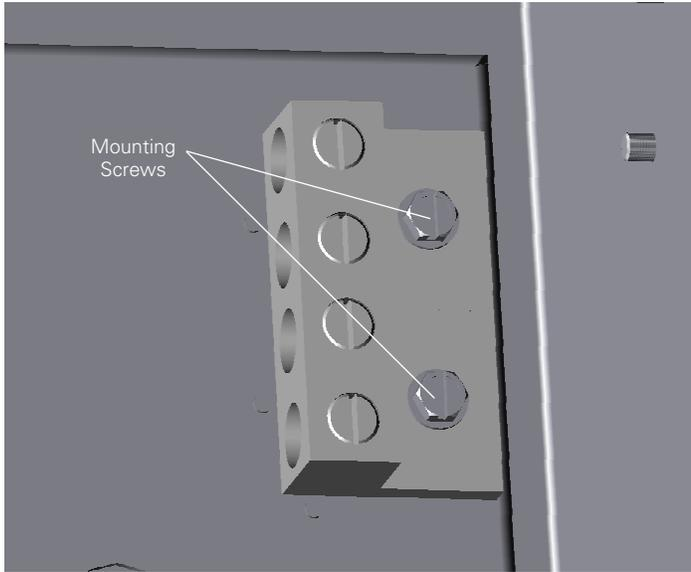

Figure 24. Replacing the Ground Lug.
- Step 3: Remove the screws securing the ground lug using a blade screwdriver (see Figure 24). Remove the ground lug.